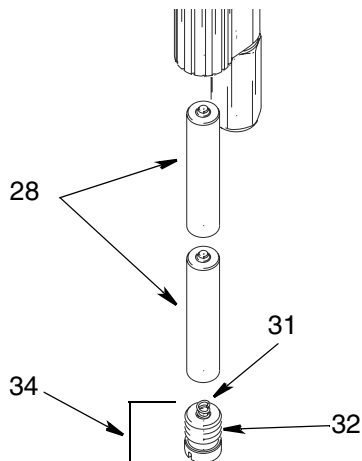
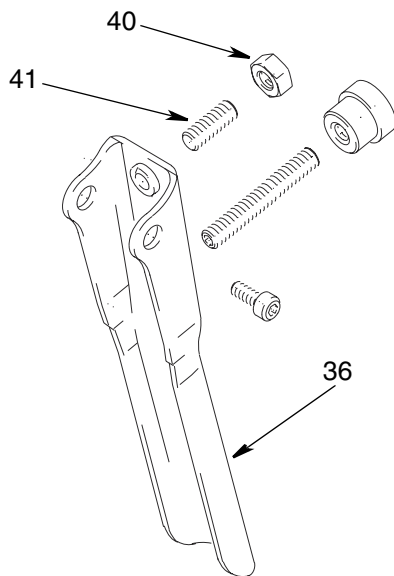

FIG. 5
FIG. 7
Refer to FIG. 5 for the following instructions.
Refer to FIG. 7 for the following instructions.
2. Loosen the nut (40) and remove it all together with the set screw (41). (FIG. 7)
3. Unscrew the battery cap (34) and remove the two batteries (28). (FIG. 5)
4. Unscrew the 4 fastening screws (23) and remove the outlet housing (24), the plate (25), and the plate gasket (26).
5. Remove the screws (21) along with the electronics (17).
11. Ensure that the key spacer (22) is correctly fitted on the left RESET button of the card.
12. Fit the plate gasket (26), the plate (25), and the housing (24) along with the screws (23).
13. Fit the set screw (41) and tighten the nut (40) on the lever (36). Adjust the set screw to correctly position the lever, referring to the Dimensions Drawing on page 13.
14. Tighten the nut (40). (FIG. 7)
15. Insert the batteries (28) into the battery compartment on the handle (29) following the Battery Replacement Procedure (page 8).
16. Tighten the battery cap (34) complete with o-ring (32) and spring (31). (FIG. 5)